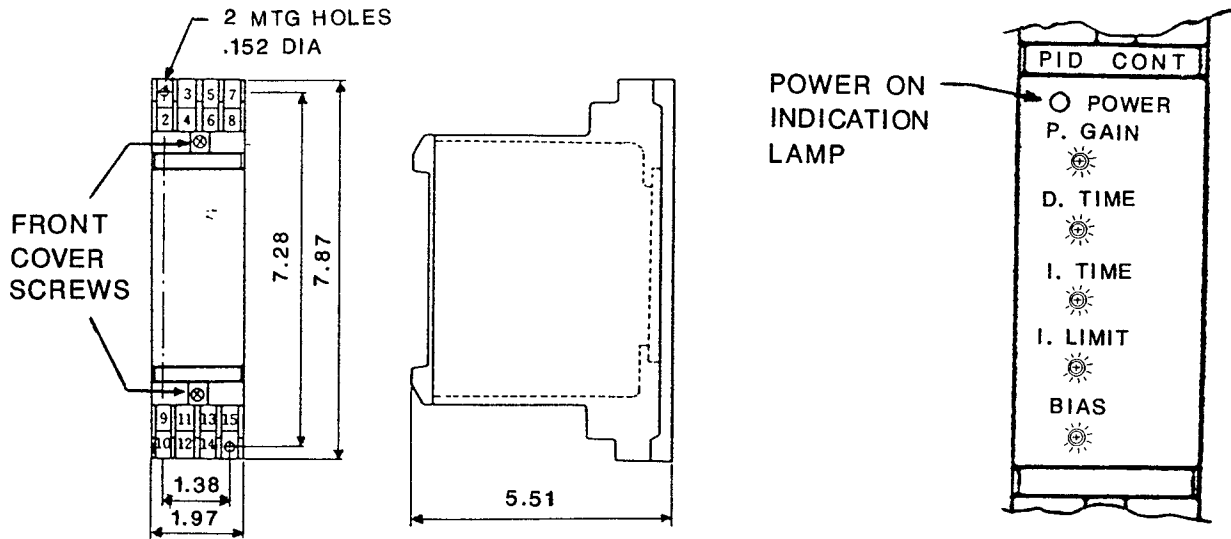

Figure 1. PID Controller Module
4. Mount the PID Controller module in the desired location (see dimensions in Figure 1). Then make connections according to the appropriate connection diagram, Figure 2 or 3.
PID Controller adjustment potentiometers are accessible through the front cover of the module (see Figure 1).